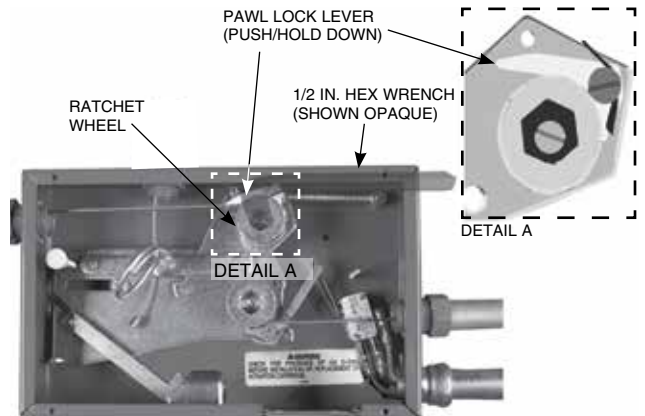

FIGURE 10
- b. While the ratchet wheel is in the rotated position, push down on the pawl lock lever to release the cable tension. See Figure 10.